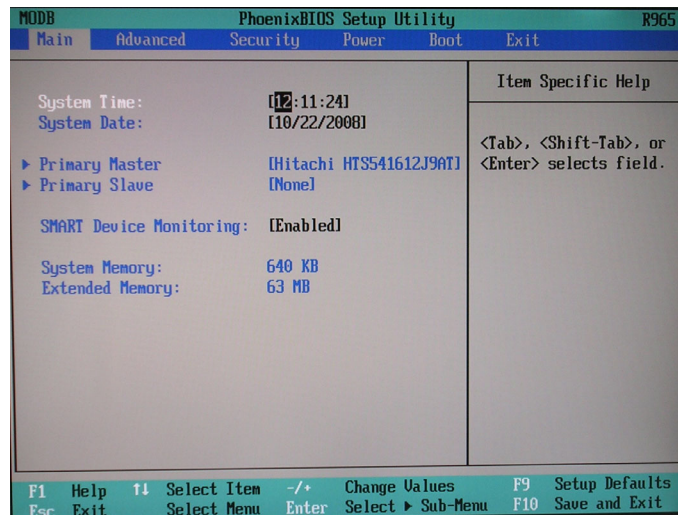

Figure 8-108 BIOS Main Tab
- 1.) From the BIOS main menu (see Figure 8-108), select the **<Advanced>** menu and press **<Enter>**.
- 4.) Press **<Esc>** to return to the main BIOS screen (Figure 8-108 on page 8-108).
7.) Press **<Esc>** to return to the main BIOS screen (Figure 8-108 on page 8-108).
10.) Press **<Esc>** to return to the main BIOS screen (Figure 8-108 on page 8-108).